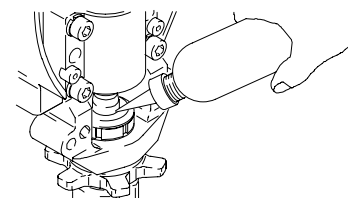

Fig. 16 7677B
4. Fig. 16. Fill packing nut with Graco TSL, through one of the slits, until fluid flows onto the top of seal.